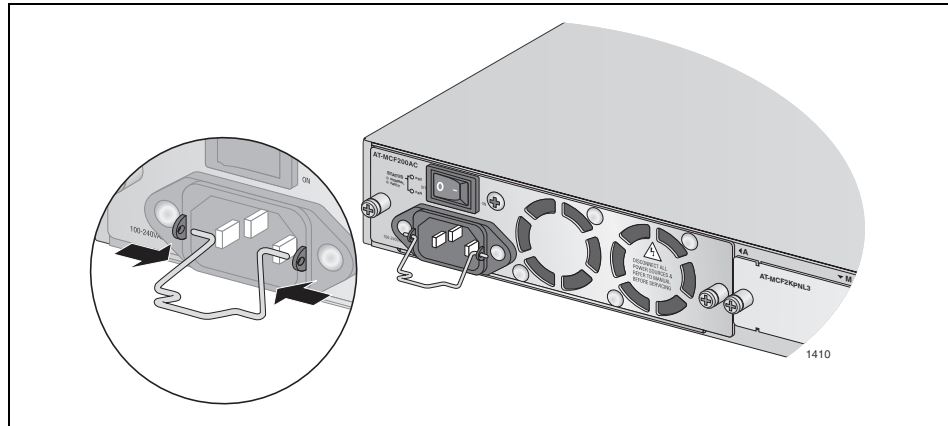

Figure 46. Installing a Retaining Clip
5. Position the retaining clip as shown in Figure 46 and press the sides of the clip towards the center while inserting the short ends into the holes in the bracket.